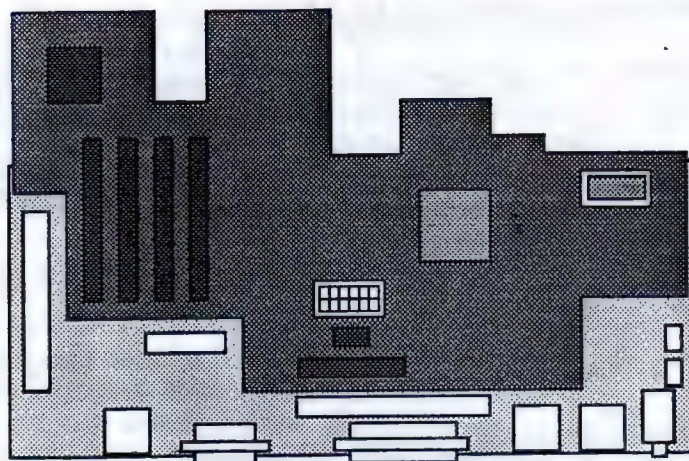

Figure 5 : Positioning the NewLife Accelerator! Classic on the Mac motherboard
4. Position the NewLife board on top of the Classic board as shown in Figure 5.